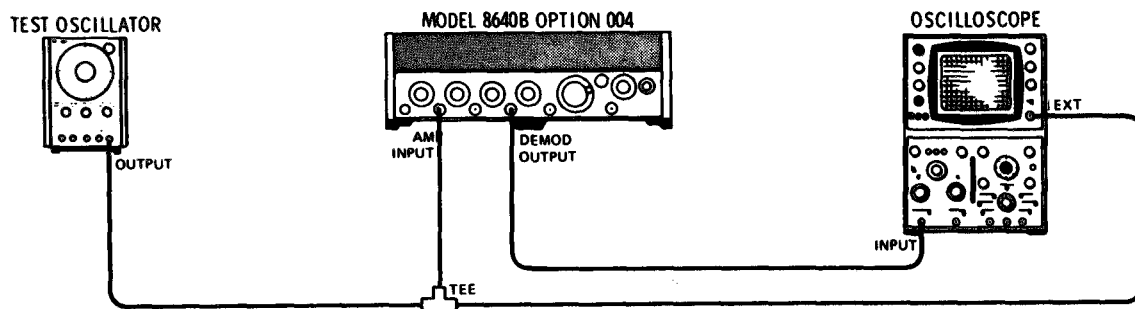

Figure 4-23. AM Phase Shift Test Setup
1. Connect the equipment as shown in Figure 4-23 after setting the Signal Generator's controls as follows: